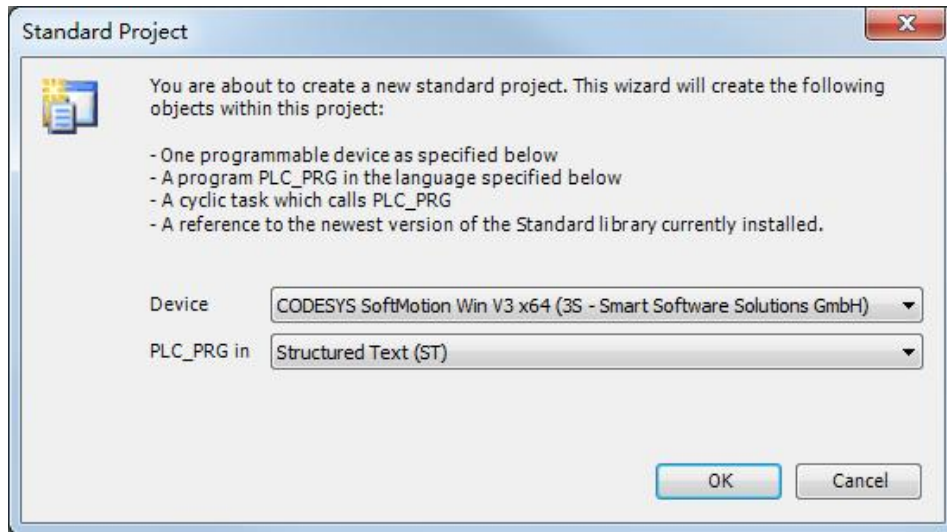

Figure 5-4-2
- As shown in Figure 5-4-2, select the corresponding device and the location of PLC_RPG.